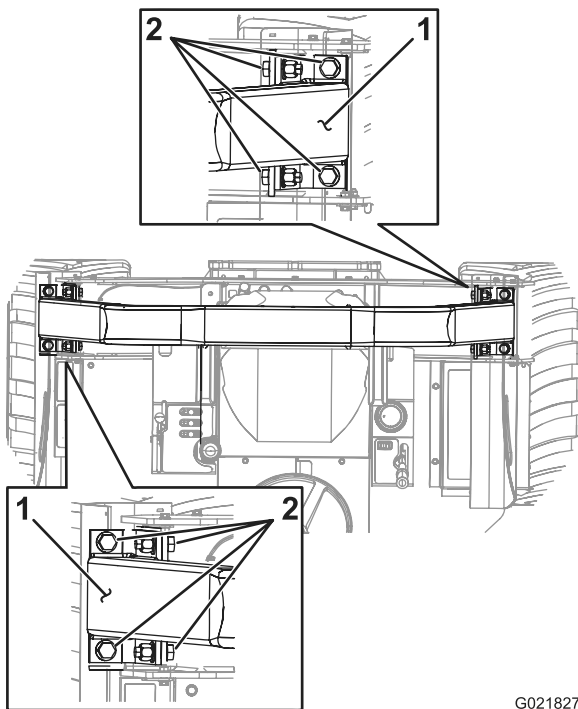

Figure 96
1. Check that the 8 bolts that secure the ROPS bar to the chassis of the machine are torqued to 24.4 to 26.1 N-m (216 to 231 in-lb); refer to Figure 96.